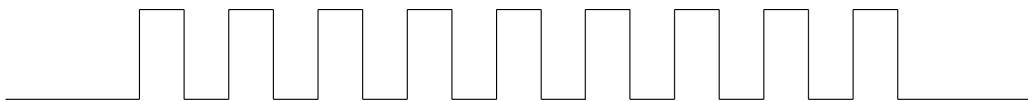

Figure 36-3. Master Clock Positive Waveform
- **Scenario 2:** The clock sent by the master device is not a free-running clock, and the clock waveform is as shown in Figure 36-3.
**Requirement:** The master device should invert the original clock and convert it to the waveform as Figure 36-3 shows before output.